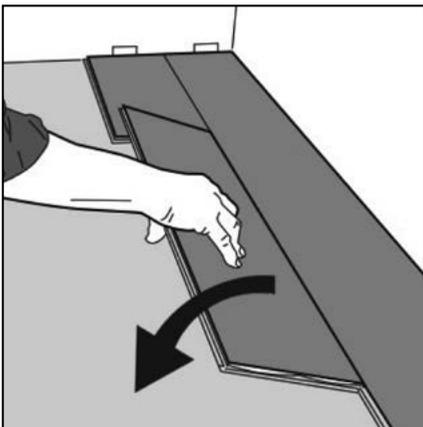

Figure 27 Second plank, second row
- ▶ Gently place the plank close to the short end of the previous one (fig. 27) and fold it down in a single action movement ensuring the corner of the long and short sides connect into the corresponding profiles of the short edge of the first plank second row; and the long edge lower profile of the corresponding plank in the previous row respectively.